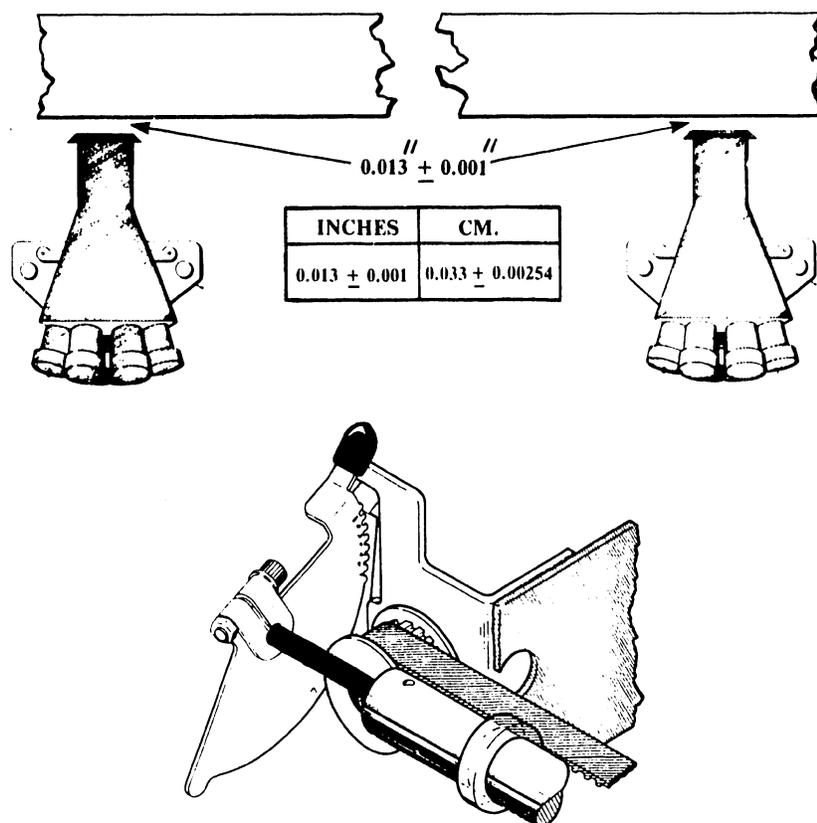

**FIGURE 6-8 HEAD ADJUSTMENT ARM ASSEMBLY**
- 1) Move the head-adjustment arm to position 5 and check that Allen screw in carriage shaft is vertical. (See Figure 6-8.)